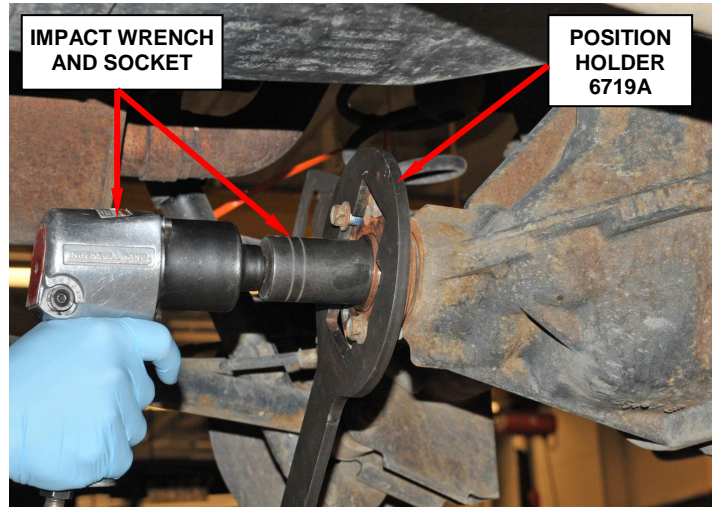

Figure 10 – Pinion Nut
a. Place the Position Holder 6719A against the companion flange and install a bolt and washer into the threaded holes (Figure 10). Tighten the bolts so the Position Holder 6719A is held to the flange.